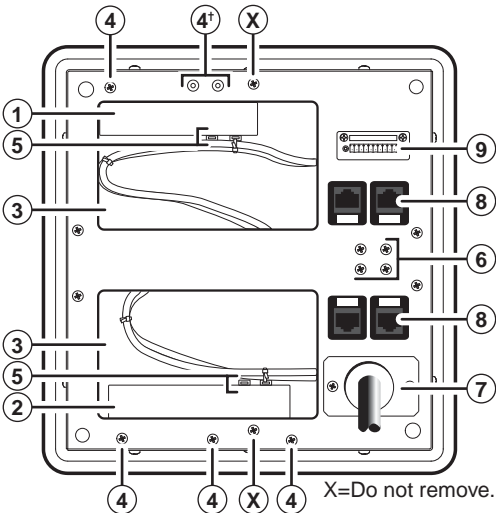

Figure 3-1 — HSA 822M maintenance features
Figure 3-1 shows the underside of the enclosure and many of the maintenance-related features.
NOTE The screws indicated by a dagger (†) on figure 3-1 are accessible from the top (inside the enclosure).
6. **If an AAP cable is no longer required in your system**, from the underside of the enclosure, reach into the cable access holes (figure 3-1 on page 3-2, item ③), and cut the tie wraps (⑤) that route the AAP cables and network (CAT 6) cables inside the enclosure.
11. Replace the AAP/RJ-45 panel in the surface mount enclosure and secure them in place with the screws removed in step 2. If you lose an AAP/RJ-45 panel screw, four spare screws are stored in the underside of the enclosure (figure 3-1 on page 3-2, item ⑥).
6. Replace the AAP/RJ-45 panel in the surface mount enclosure and secure it in place with the screws removed in step 1. If you lose an AAP/RJ-45 panel screw, four spare screws are stored in the underside of the enclosure (figure 3-1 on page 3-2, item ⑥).
8. Disconnect the IEC power cord, the RJ-45 connectors, and the control and status connector (figure 3-1 on page 3-2, items ⑦, ⑧, and ⑨) from the connectors on the underside of the HSA.
10. From the underside of the enclosure, reach into the cable access holes (figure 3-1 on page 3-2, item ③), and cut the tie wraps (⑤) that route the AAP cables and network (CAT 6) cables inside the enclosure. Carefully pull the cables through and out the bottom of the HSA.
18. Replace the AAP/RJ-45 panel in the surface mount enclosure and secure it in place with the screws removed in step 1. If you lose an AAP/RJ-45 panel screw, four spare screws are stored in the underside of the enclosure (figure 3-1 on page 3-2, item ⑥).
20. Connect the IEC power cord, the RJ-45 connectors, and the control and status connector (figure 3-1 on page 3-2, items ⑦, ⑧, and ⑨) to the connectors on the underside of the HSA.
1. Remove the surface mount enclosure from the table. See "Removing and Replacing the Enclosure", steps 1 through 12. Place the enclosure on a horizontal surface. Let the AC and control and status connectors (figure 3-1 on page 3-2, items ⑦ and ⑨) overhang the edge of the surface so that they are accessible.